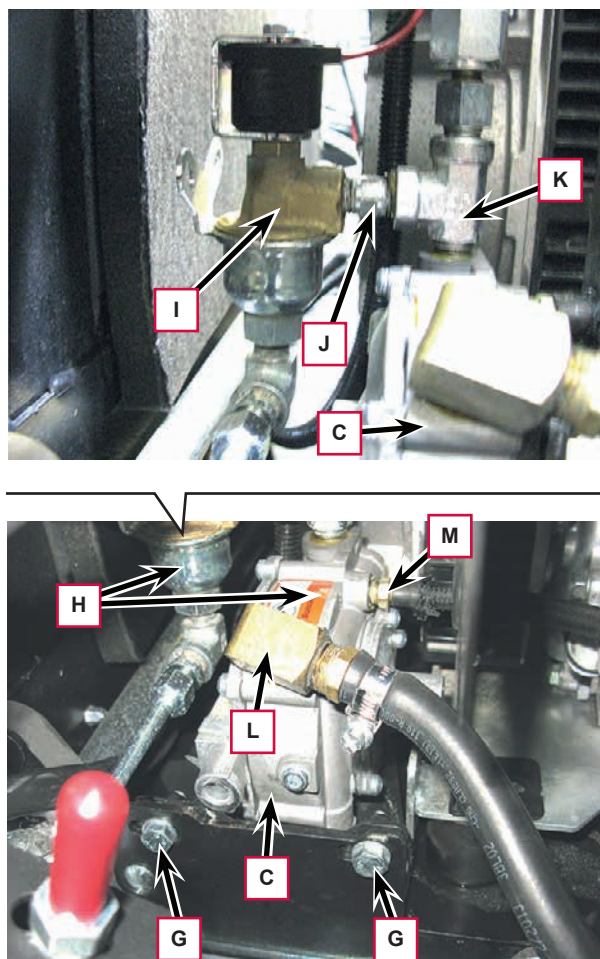

Figure 20
7. Disconnect the fuel reserve sensor (B) electrical connections (A, Figure 20).
8. Unscrew the fuel reserve sensor (B) while holding the fitting (C).